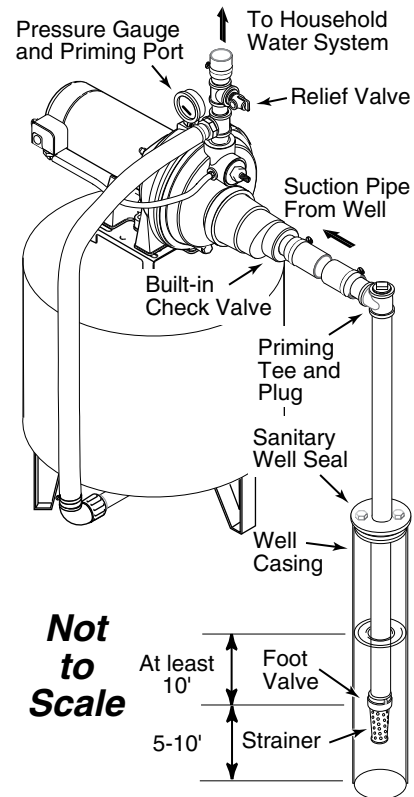

Figure 5 – Cased Well Installation
## Cased Well Installation, 2” or Larger Casing (Figure 5)
3. Assemble the foot valve, strainer, and well pipe (See Figure 5). Make sure that the foot valve works freely.
5. Install a priming tee, priming plug, and suction pipe to the pump (See Figure 5). Connect the pipe from the well to the pump suction port, using the fewest possible fittings (especially elbows) as fittings increase friction in the pipe. The suction pipe should be at least as large as the suction port on the pump. Use PTFE pipe thread sealant tape on threaded pipe joints. Support the pipe so that there are no dips or sags in the pipe, so it doesn’t strain the pump body, and so that it slopes slightly upward from the well to the pump (high spots can cause air pockets which can air lock the pump). Seal the suction pipe joints with PTFE pipe thread sealant tape. Joints must be air and water-tight. If the suction pipe can suck air, the pump cannot pull water from the well.